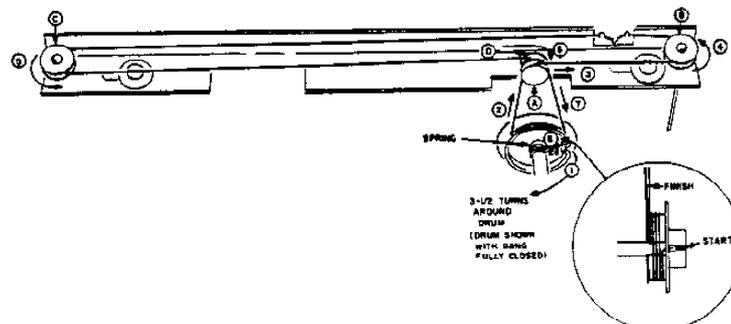

Figure 13. Dial Cord Stringing Diagram
5. Restring the dial cord as follows (Figure 13):
- (b) Proceed clockwise (1) around the drum 3 1/2 turns and up over wheel "A" (2) to wheel "B" (3).
- (c) Continue around wheel "B" (4) and across to wheel "C".
- (d) Continue around wheel "C" (5) and back across to wheel "D" (6) and down to the tuning drum (7).
- (e) Finish up by routing the cord into the drum slot and attach to the drum spring (8).